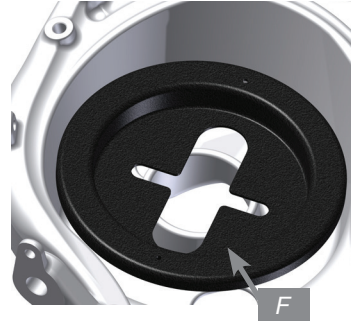

fig. 14
- Apply the second roll plate (F) within the lower control arm spring pocket (Fig. 14).